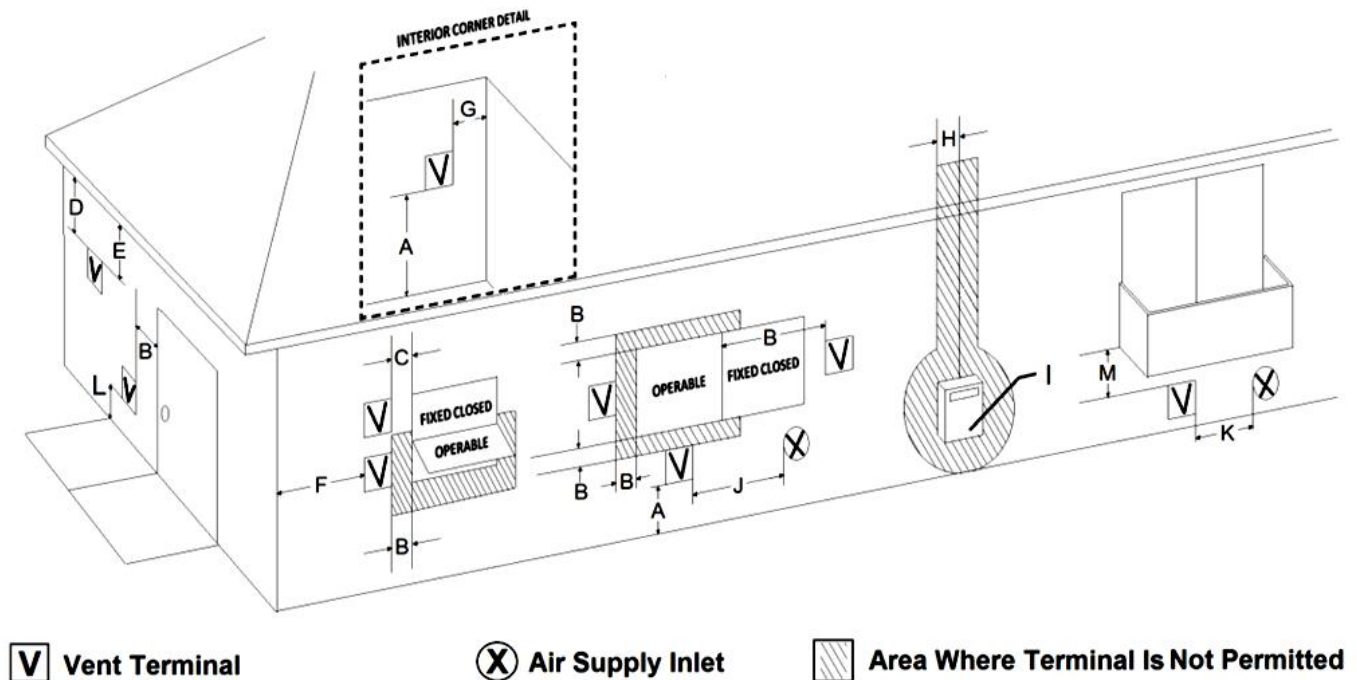

Figure 11 - Acceptable Direct Vent Terminal Vent Cap Locations
- ✿ The termination must fall within the chart in Figure 11.
- 🔥 The termination must fall within the area shown in Figures 11 & 12.